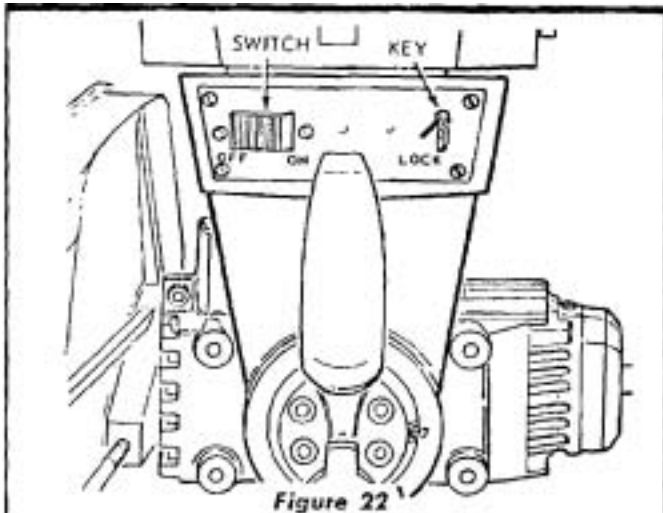

Figure 22
1. Insert key in slot and turn it. (See figure 22.)